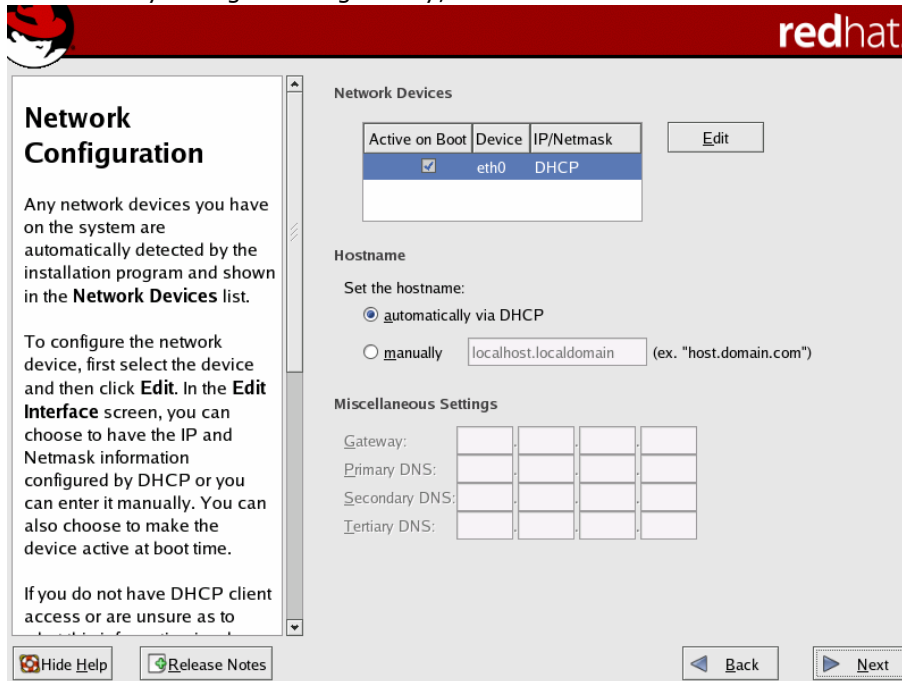

Figure 5-11
13. Refer to Figure 5-11. To configure the network devices, you can either choose to configure by DHCP or manually configure the gateway, DNS and domain information.